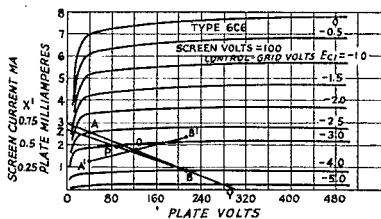
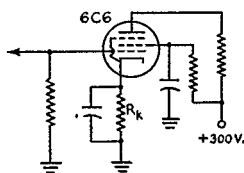

Fig. 3 — Average plate characteristics for a type 6C6 tetrode.
Fig. 4 — Typical resistance-coupled pentode amplifier circuit. $R_k = 1500$ ohms. $R_p = 100,000$ ohms.
The following procedure is used to locate the operating point of a resistance-coupled amplifier which uses a 6C6 pentode. The characteristic curves for this tube are shown in Fig. 3 while the diagram appears in Fig. 4.
2) Assume two values of bias voltage along the load line. These are points *A* and *B* at 2.5 and 4 volts respectively along load line *XY* shown in Fig. 3.
At this point it is necessary to consider the effect of screen current flowing in the cathode resistor. In the case of the 6C6 this current is 25 per cent of the plate current as shown by the screen-current scale in Fig. 3. Thus, in order to anticipate the true operating point on the plate current-plate voltage characteristics, the effective cathode resistance must be found by increasing the value of the cathode resistor by the same percentage as that by which screen current increases the total cathode current. Consequently, in drawing the bias line the slope of the line is determined by
9) It is possible also to draw a screen load line on a characteristic curve as demonstrated by line YZ in Fig. 3. One point of the screen load line is of course at the supply-potential point on the plate-voltage coordinate. A second point is point P which is the screen voltage and grid-bias point. In this case the screen voltage is 100 and the grid bias -3.187 volts.